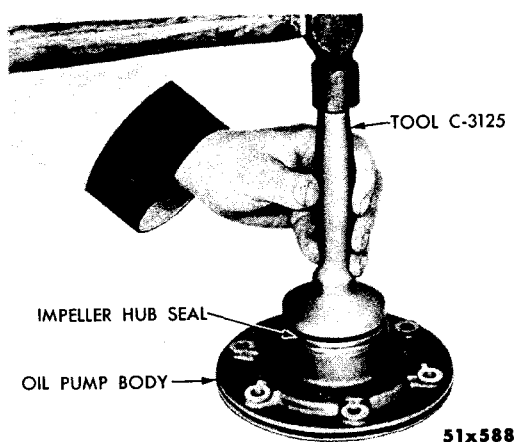

Fig. 35—Installing the Impeller Hub Seal
- (1) Using Tool C-3125, install a new oil seal in the Torque Converter Impeller Hub, as shown in Figure 35.